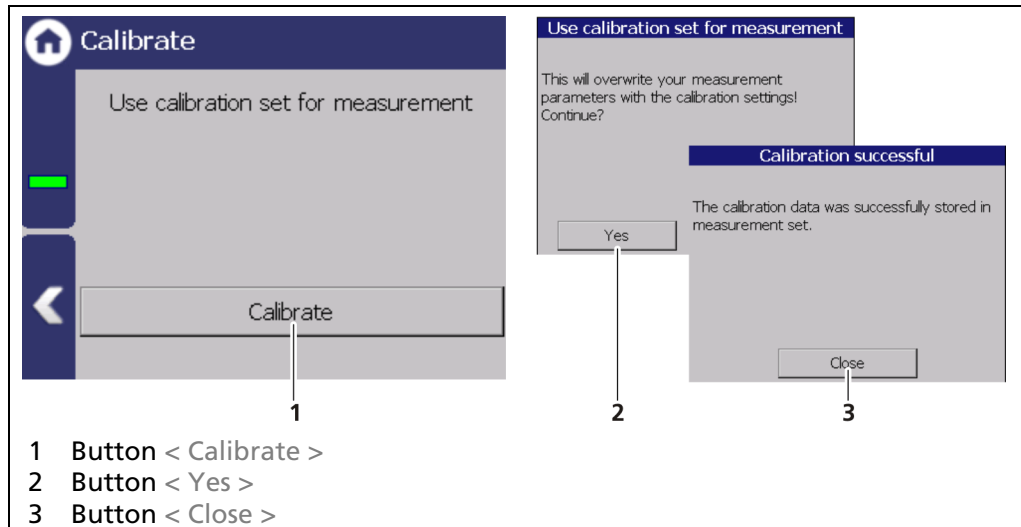

Fig. 83 Calibrate
1. Click on the button < Calibrate > (Fig. 83, item 1).
2. Click on the < Yes > button (Fig. 83, item 2) to overwrite your measurement parameters with the calibration settings.
3. Click on the < Close > button (Fig. 83, item 3)